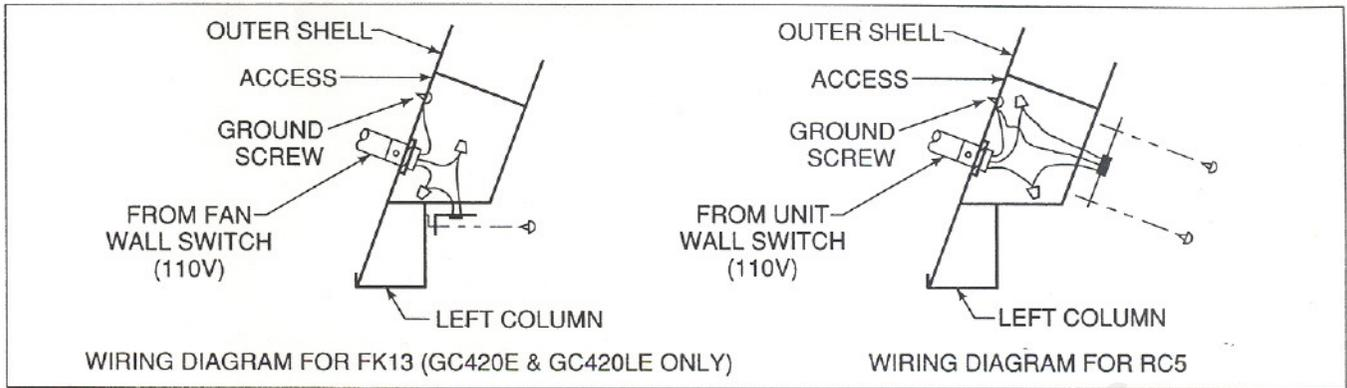
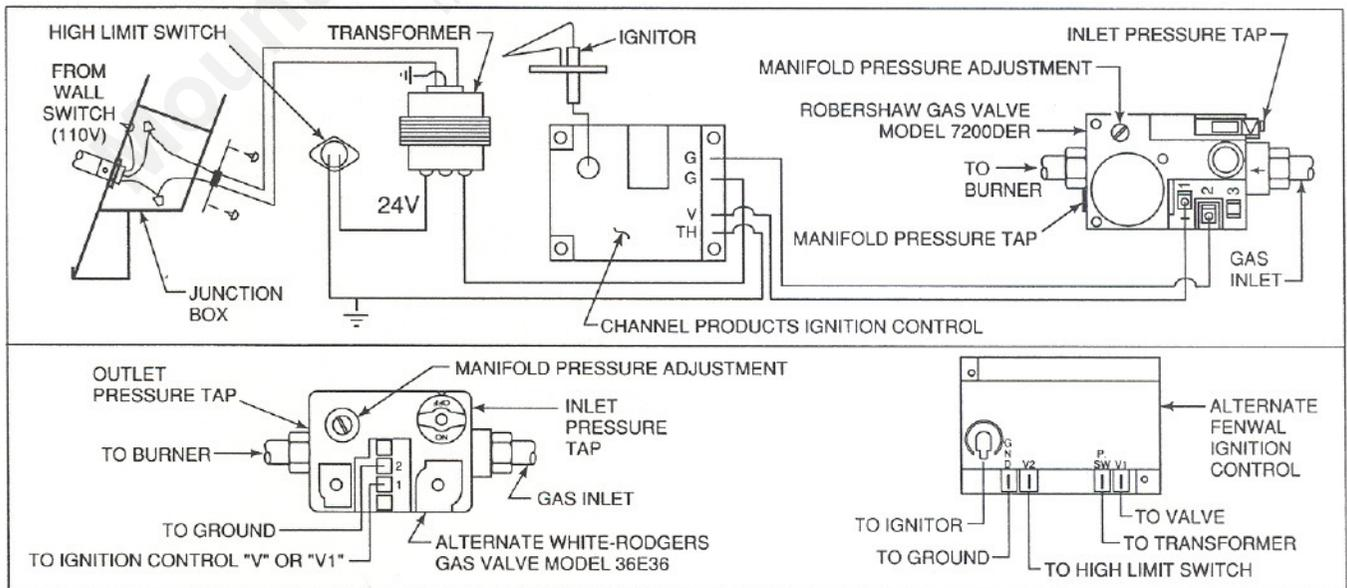

Figure 3
Figure 5
If an optional FK13 Fan Kit or RC5 Remote Control Kit are to be used, wiring should be done at this time. Wiring diagrams are shown in Figure 3 and are also provided with these accessories. Supply electrical wiring (110V) to the left side of the appliance. Connect the wall switch in line to operate the appliance. The appliance must be electrically wired and grounded in accordance with local codes or, in the absence of local codes, with National Electric Code ANSI/NFPA 70-latest edition or, in Canada, the current CSA C22.1 Canadian Electrical Code. The appliance wiring diagram is shown in Figure 5.
B. No ground.	Check that wiring is grounded as shown in Figure 5.